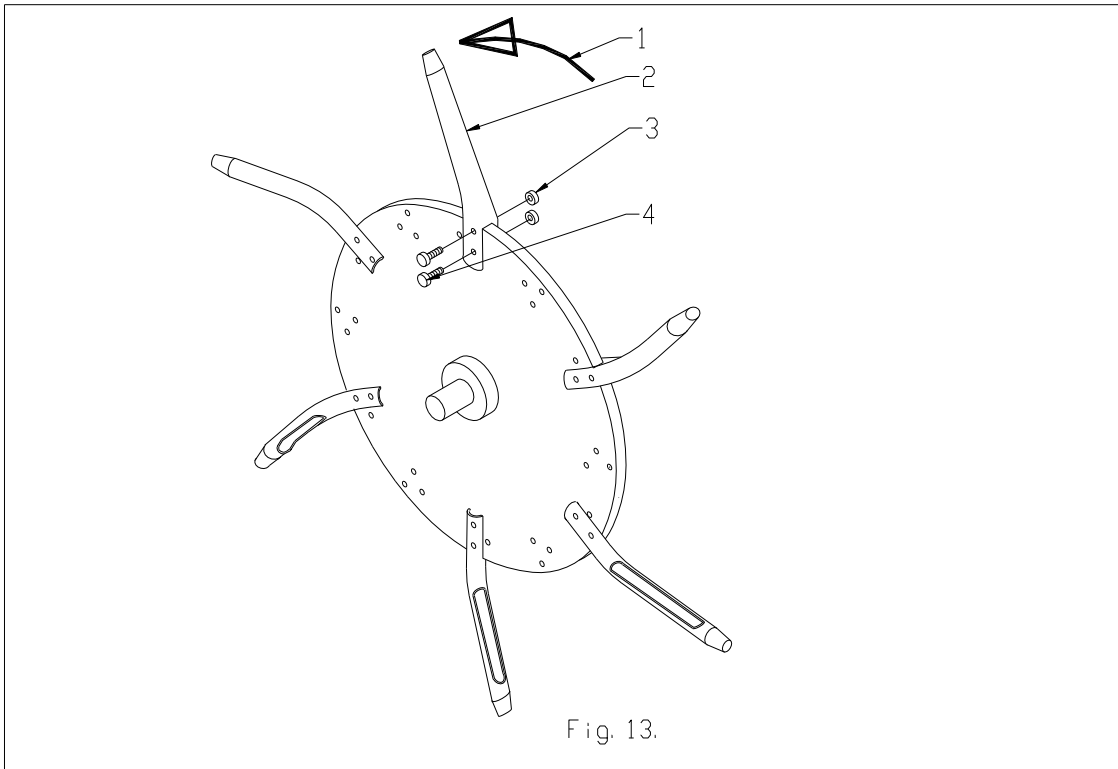

Fig. 13.
11.4 HOLLOW TINE KIT (See fig.13)
Assemble them as is drawn in Fig. 13. Divide them even around the disks. If you want to use 12 per disk, simply order another kit .